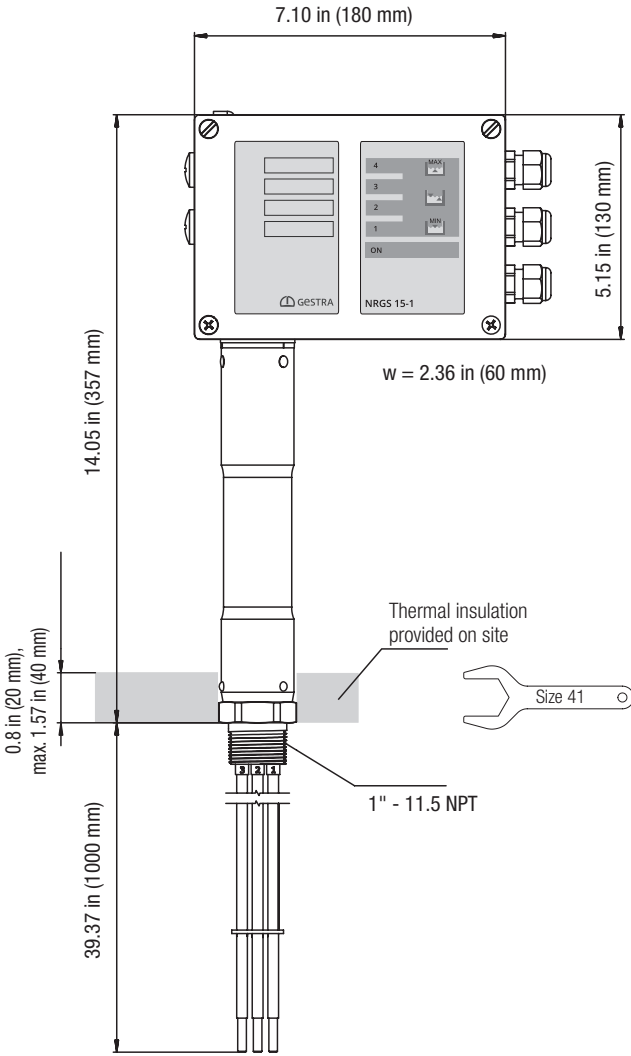

Fig. 3
- Make sure that the boiler's thermal insulation is no more than max. 1.57 in (40 mm) thick in the vicinity of the level switch (see **Fig. 3**).